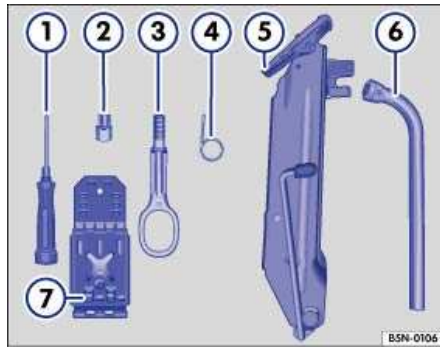

Fig. 24 Vehicle tool kit.
- Take the wire hook from the vehicle tool kit ⇒ Fig. 24 (4).
- Take the wire hook from the tool kit ⇒ Fig. 24 (4).